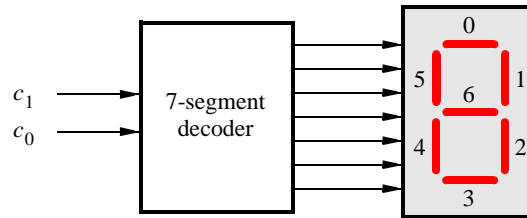

Figure 6: A 7-segment decoder.
The objective of this part is to display a character on a 7-segment display. The specific character displayed depends on a two-bit input. Figure 6 shows a *7-segment decoder* module that has the two-bit input c_1c_0 . This decoder produces seven outputs that are used to display a character on a 7-segment display. Table 2 lists the characters that should be displayed for each valuation of c_1c_0 for your DE-series board. Note that in some cases the ‘blank’ character is selected for code 11.
2. Create a Verilog module for the 7-segment decoder. Connect the c_1c_0 inputs to switches SW_{1-0} , and connect the outputs of the decoder to the $HEX0$ display on your DE-series board. The segments in this display are called $HEX0_0, HEX0_1, \dots, HEX0_6$, corresponding to Figure 6. You should declare the 7-bit port